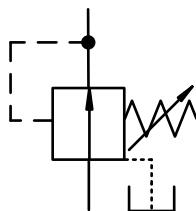

FIG 4.
E. The symbol for a 2 way pressure reducing valve is shown in Fig 4.